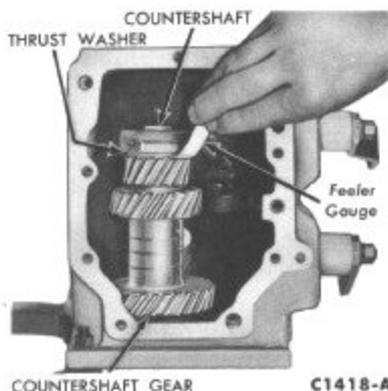

FIG. 55—Checking Countershaft Gear End Play
8. Coat the bore in each end of the countershaft gear with grease. Hold the tool T63P-7111-B in the gear and install 25 needle bearings and a retainer washer in each end of the gear. Install the countershaft gear, thrust washers and the countershaft in the case. Place the transmission case in a vertical position. Check the end play with a feeler gauge as shown in Fig. 55. If the end play exceeds 0.018 inch, replace the thrust washers as required to obtain an